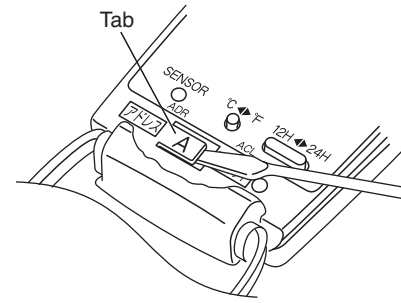
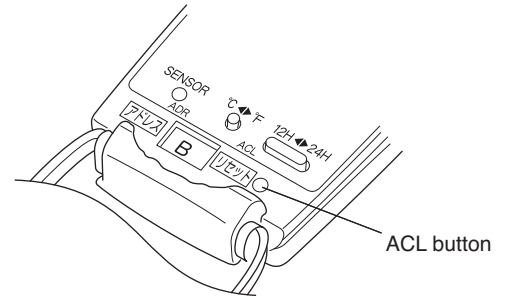
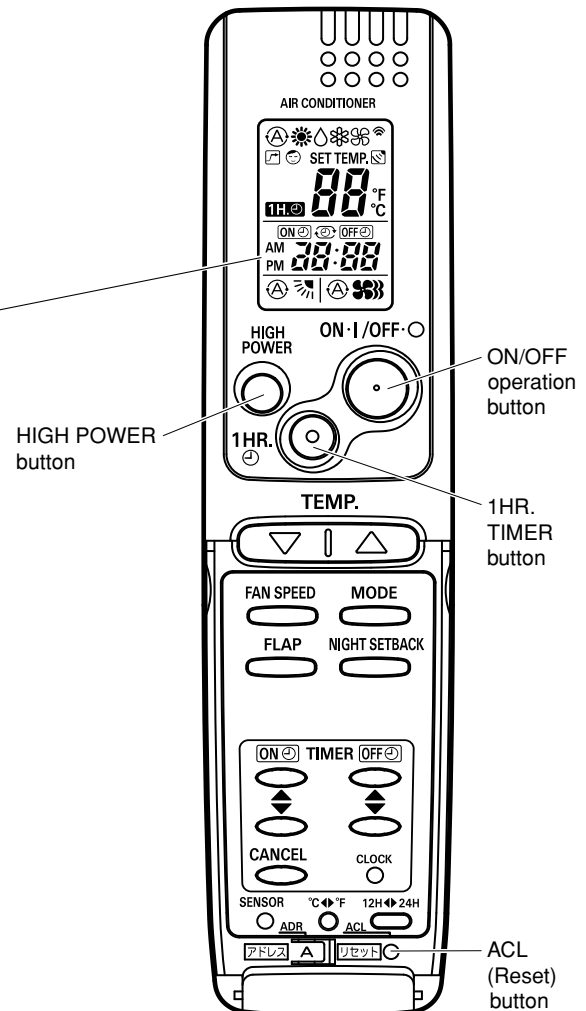

Fig. 37
Fig. 38
Fig. 39
- (1) Switch on the power source.
- (2) Break the address-setting tab marked "A" on the second remote controller to change the address (Fig. 37). When the tab is removed, the address is automatically set to B (Fig. 38).
- (3) Press and hold the remote controller HIGH POWER button and 1HR. TIMER button. Then, press and hold the ACL (Reset) button with a pointed object such as the tip of a pen. After 5 seconds, release the ACL button first, then release the HIGH POWER and 1HR. TIMER buttons. "oP-1" (Test Run) appears, blinking in the remote controller clock display area.
- (4) Each time the 1HR. TIMER button is pressed, the display changes as shown below. Press this button 2 times to change the display to "oP-7" (Address setting). (Fig. 39)
- (5) "oP-7" has now been selected for address setting.
- (6) Press the ON/OFF operation button on the remote controller. (Fig. 39) Check that the "beep" signal-received sound is heard from the second indoor unit (approximately 5 times). The sound you hear is the signal that the remote controller address has been changed.
- (7) Finally press the remote controller ACL (Reset) button to cancel the blinking "oP-7" display. (Fig. 39)